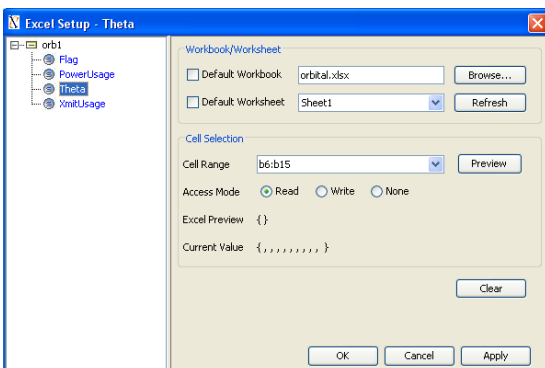

Figure 6.16 ParaMagic- Excel Set-up for aggregate slot
- ii. For slots where we will read in multiple values from a spreadsheet, Cell range will contain a row or column of cells, as in Figure 6.16.